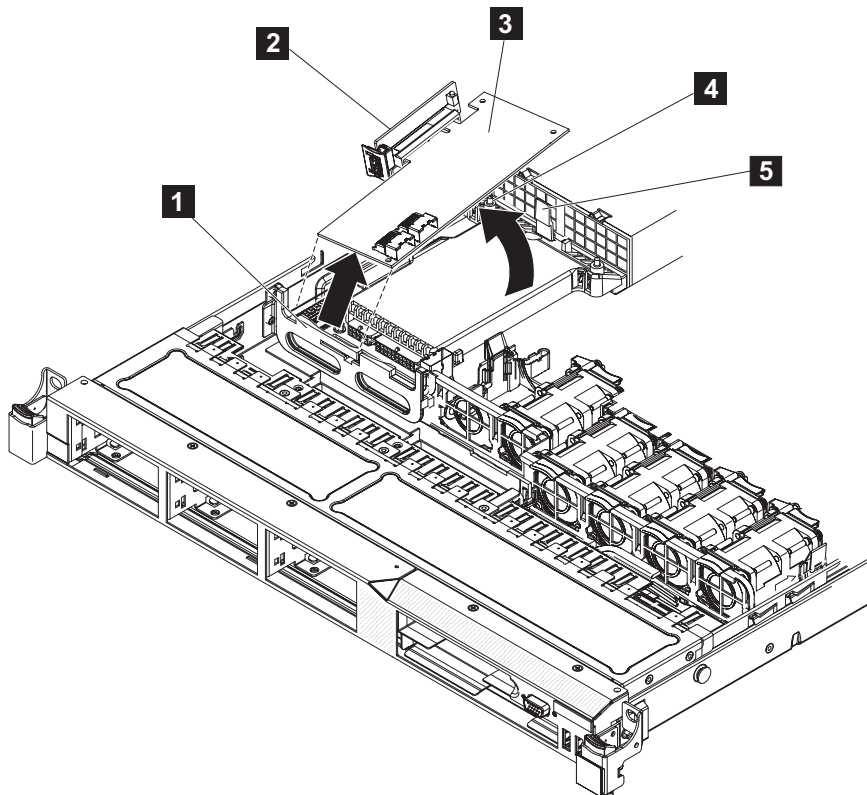

Figure 205. Disengaging the disk-controller front-retention bracket and removing the riser assembly and disk controller
11. Pull up on the disk controller (**3** in Figure 205 on page 209) until the disk-controller and USB riser-card assembly (**2**) disengages from the connector on the system board.